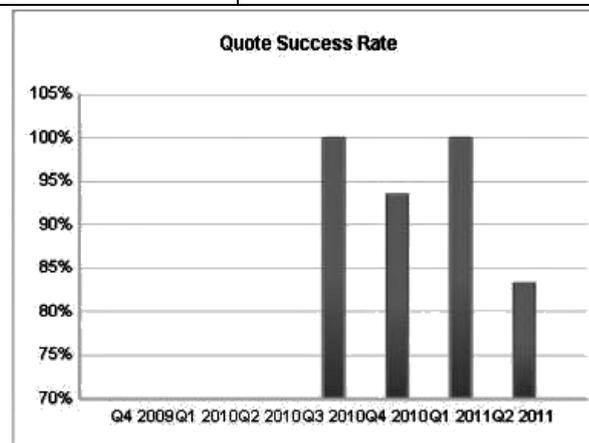

Fig. 5 The sales cycle report with quotation rate
To test our proposed solutions in SAP CRM WebClient UI, we have created numbers of opportunities with business partner and estimated closing dates for the sales cycle. After an opportunity is created, we need to maintain the opportunity with data collected during identify an opportunity. Then we create numbers of ERP quotations, in which, some of the ERP quotations are transferred into ERP SO. We can view the CRM opportunity report from CRM WebClient UI and ERP QSOs report from ERP WebClient UI. The following action can test whether our solution has taken effect or not. In BW, we first activate the DS 2LIS\_11\_VAITM, and then load the created data from ERP into BW according to the proposed solution mapping to ERP SD module data to CRM sales application data. Later, the related queries and dashboards in SAP BW are activated. Then from CRM WebClient UI we can view the Rc of ERP quotations from sales orders, shown in Fig.5. The newly created InfoP with transformation realizes proper integration of ERP SD transaction data (SO) with CRM sales application data (opportunity) in BW.